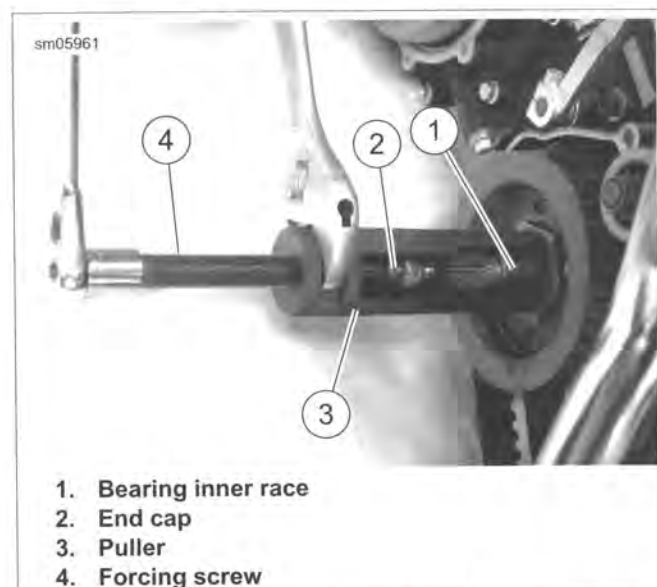

Figure 5-22. Pulling Mainshaft Inner Bearing Race
1. See Figure 5-22. Install end cap (2) into end of mainshaft.
2. Position puller (3) around mainshaft, under bearing inner race.
3. Turn forcing screw (4) clockwise while holding puller to remove bearing.